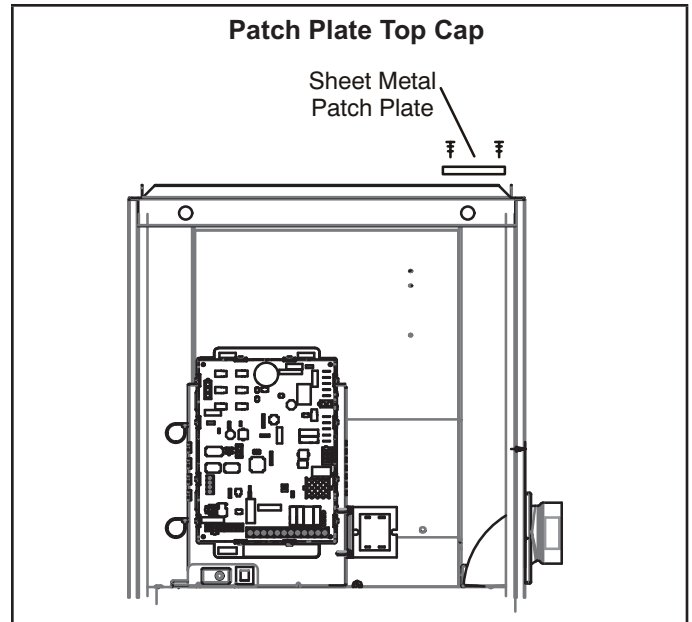

FIGURE 20
- 8 - Re-use the patch plate to cover the hole in the top cap. See FIGURE 20. Remove the 2 screws which secure the top cap to the furnace on the right side and re-install securing the right edge of the patch plate and the right side of the top cap to the furnace. Use 2 self-drilling sheet metal screws (provided) to finish securing the left edge of the patch plate on the left side.